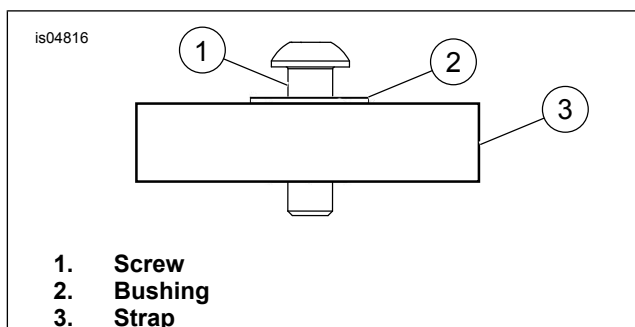

Figure 4. Screw and Bushing Configuration
1. See Figure 2 and Table 1. Install quick release catch strap on air intake cover using screw (7 or 7A) and bushing (8). Position bushing as shown in Figure 4. Tighten screw to 1.4–4.1 N·m (12–36 in-lbs). Repeat for opposite side hardware.
- See Figure 4. Insert screw (1) and bushing (2) through each latch strap (3) hole into rear cover mounting holes. Tighten screw to 1.4–4.1 N·m (12–36 in-lbs).